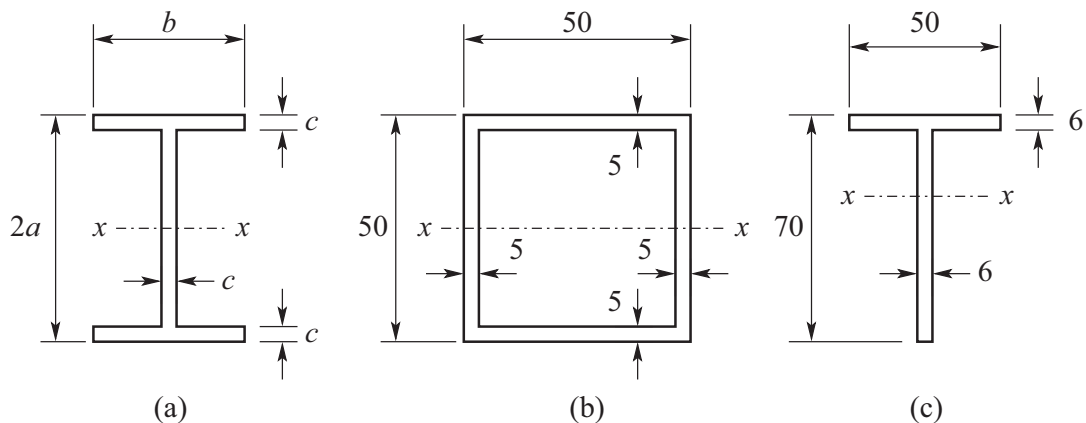

Figure 4
- † 4. Find the value of the plastic section modulus, Z_p , for bending about the axis, $x - x$, for each of the three sections shown in Figure 4. For section (b), compare your value with the corresponding section in the Structures Data book, p. 24; why is there a difference? For section (c), evaluate the fully plastic moment, M_p , given that the material yield stress is 355 N/mm^2 .